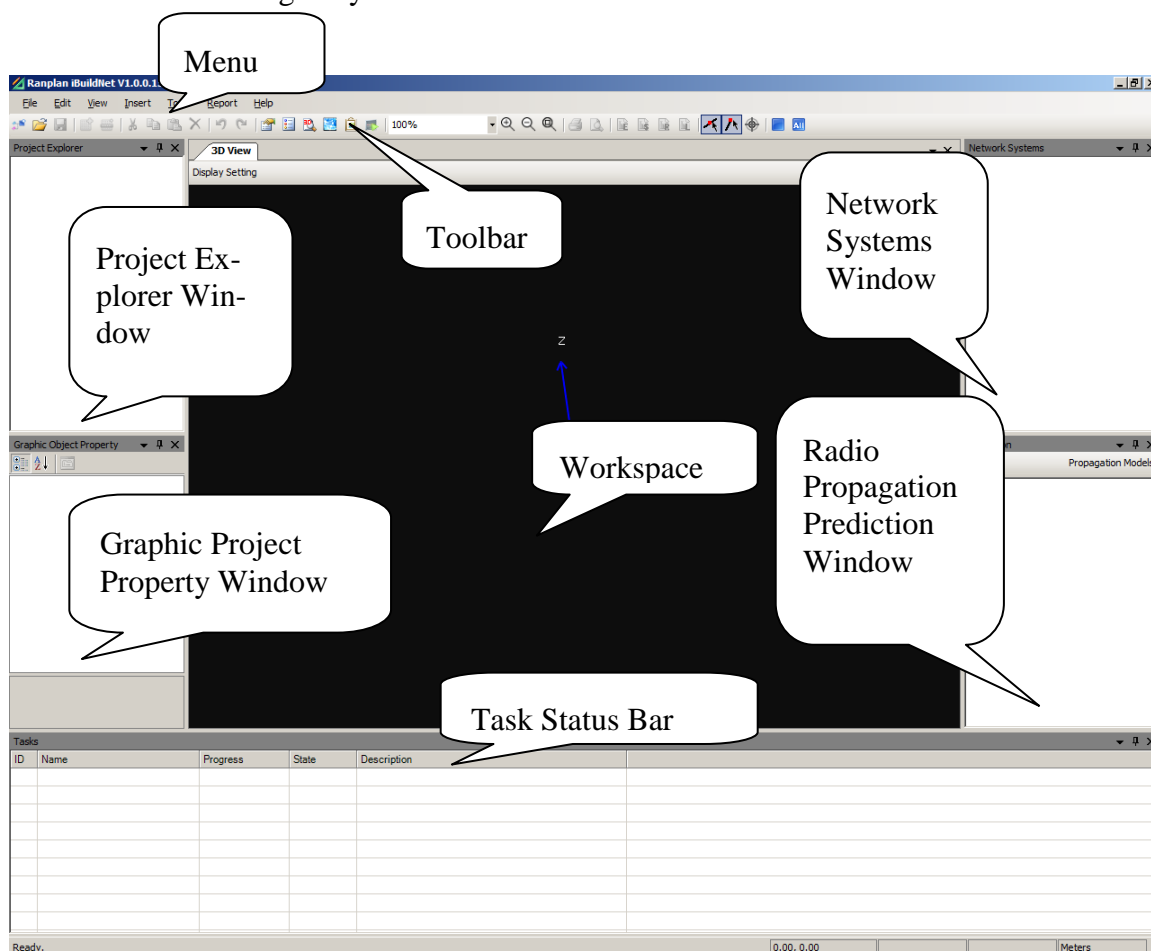

Figure 3. Main User Interface
As shown in Figure 3:
- The **Project Management Windows** including Project Explorer (also called as Project Structure Tree), Graphic Project Property Window, Network Systems Explorer Window and Radio Propagation Prediction Window. All these windows can be opened, closed or docked. In Figure 3, these four windows are docked around workspace. Users are able to customize the location of each window upon user preference.